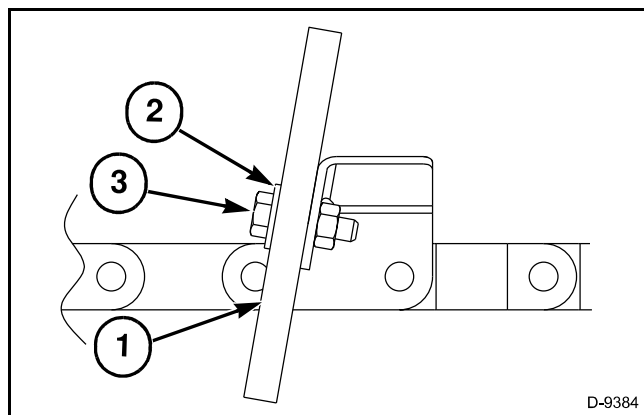

FIG. 896
FIG. 896: Be sure to use wide flat washers (2) and bolts (3) with lock nuts. Tighten the bolts until the outside surface of the washer is flush to 0.76 mm (0.03 in) below the surface of the rubber paddle (1).